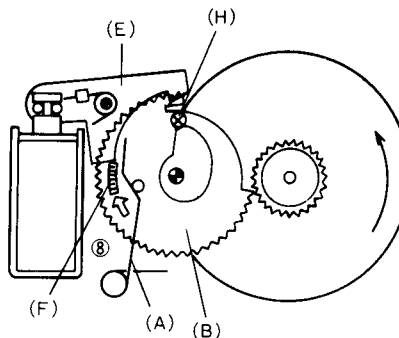

Fig. 4-4 STOP to PLAY operation 3
- **STOP → PLAY (Fig. 4-4)**
8. Although spring (A) would force gear (B) to continue rotating, it is stopped when stopper (F) meets arm (E). The shift pin (H) remains in the raised position (for playback mode). Since the shift pin (H) is attached to the head base, any shift pin movement results in head base movement. And lifting the head base presses the pinch roller against the capstan via the pinch roller pressure spring.